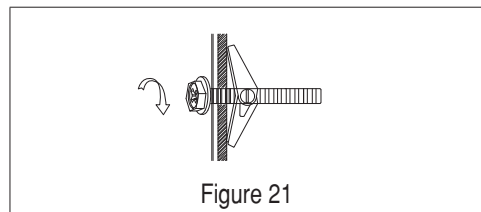

Figure 21
- Secure the mounting plate to the wall by tightening the toggle bolt assemblies or lag screw(s). See Figure 21.